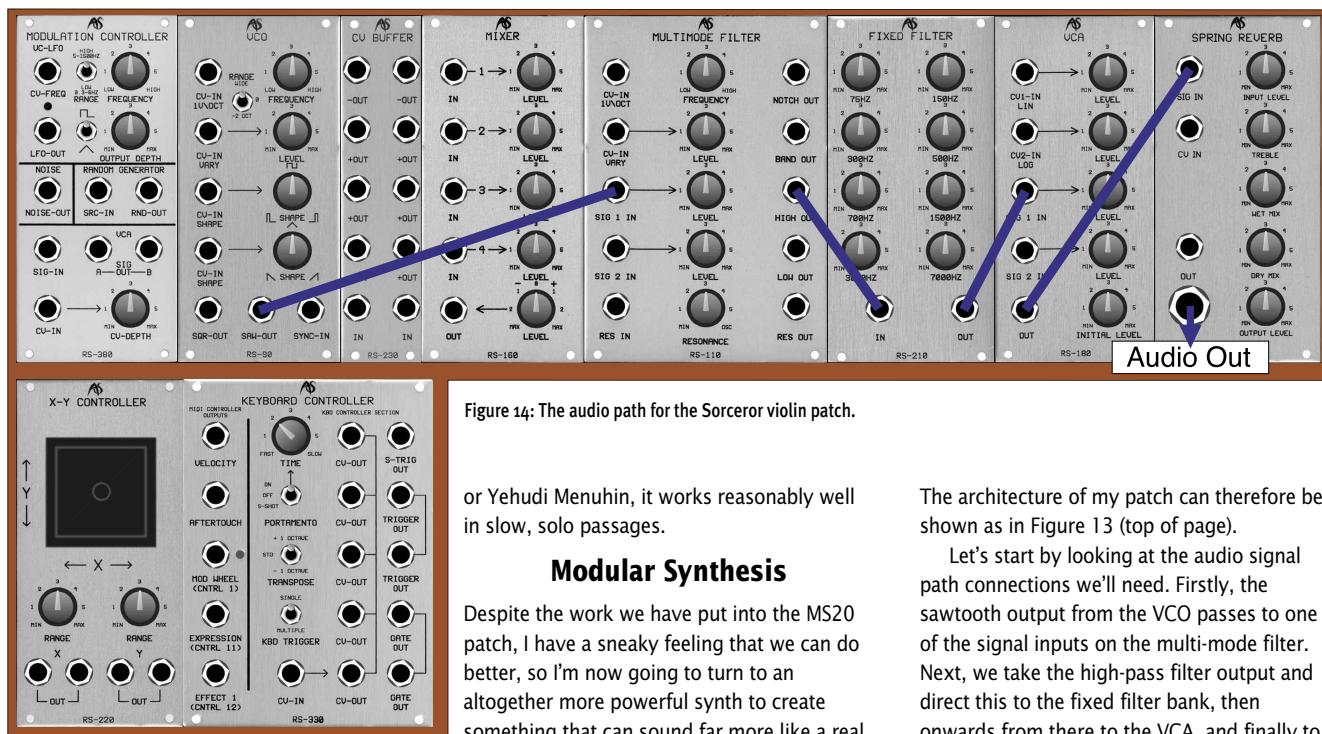

Figure 14: The audio path for the Sorceror violin patch.
► the spring reverb before the audio reaches the outside world. I've shown these connections as blue cords in Figure 14.